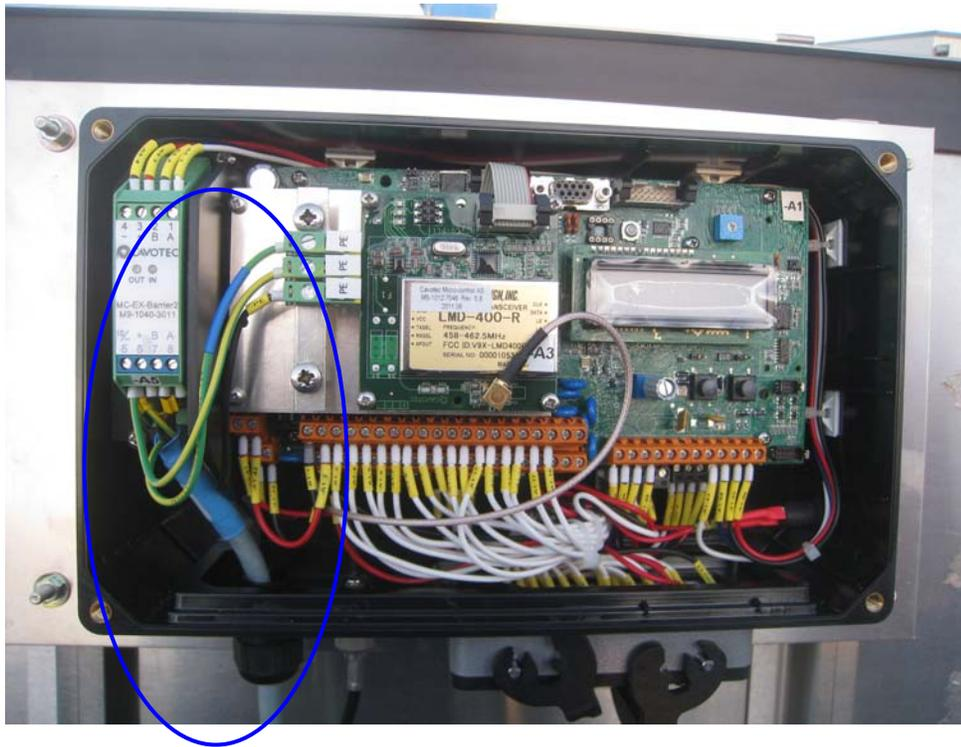

Figure 16
8. Insert pigtail end of conductor cable through strain relief on the bottom of the base unit and tighten. Attach wires A, B, +9 VDC, 0 VDC & ground to the appropriate barrier terminal or lug. See Figures 16 and 17.